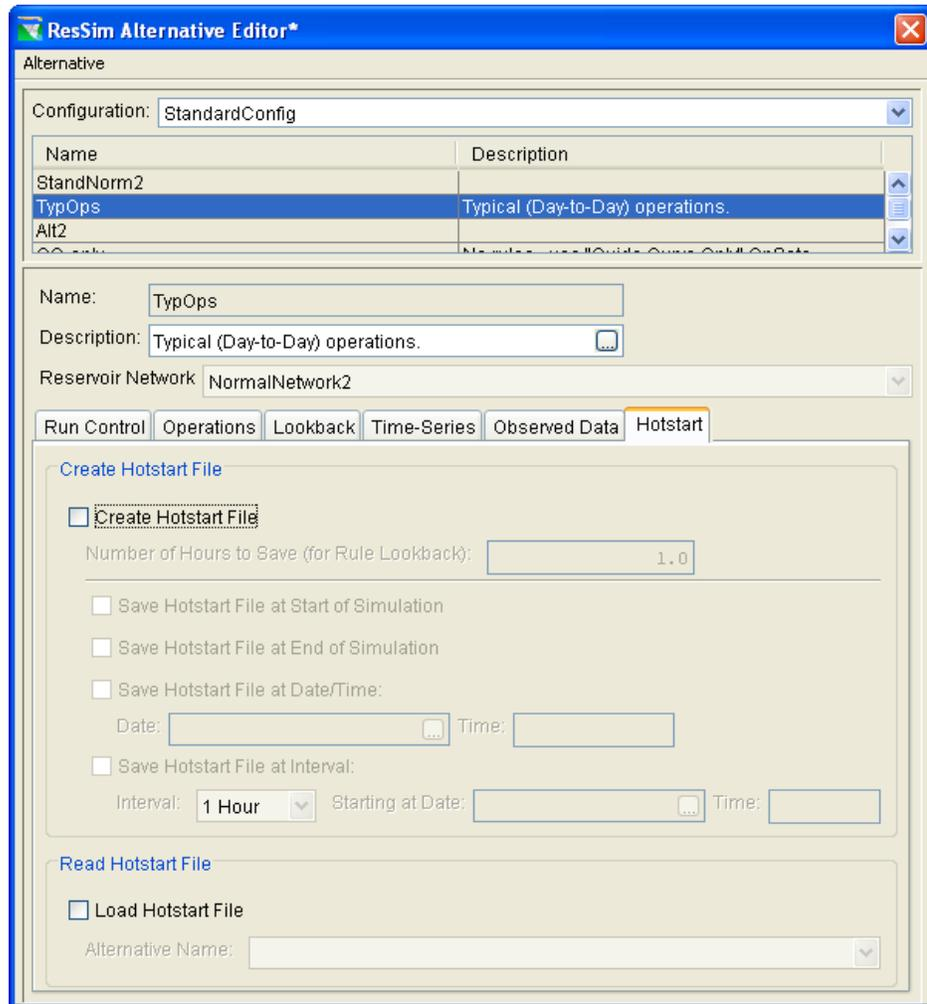

Figure 33. Alternative Editor, Hotstart Tab
9. Typically, the Lookback period is used for *warming-up* the state (i.e., setting initial conditions) of the watershed for an alternative. However, instead of using the Lookback period and associated data for determining the system state, you can save (and subsequently use) the data from one simulation to another simulation by using the *optional Hotstart* options (Figure 33). Use the Hotstart as a way of assigning a previously simulated watershed state to another simulation. In order to use the Hotstart option, the user must first run a simulation that saves system state data to “Hotstart” files [Section 13.10].